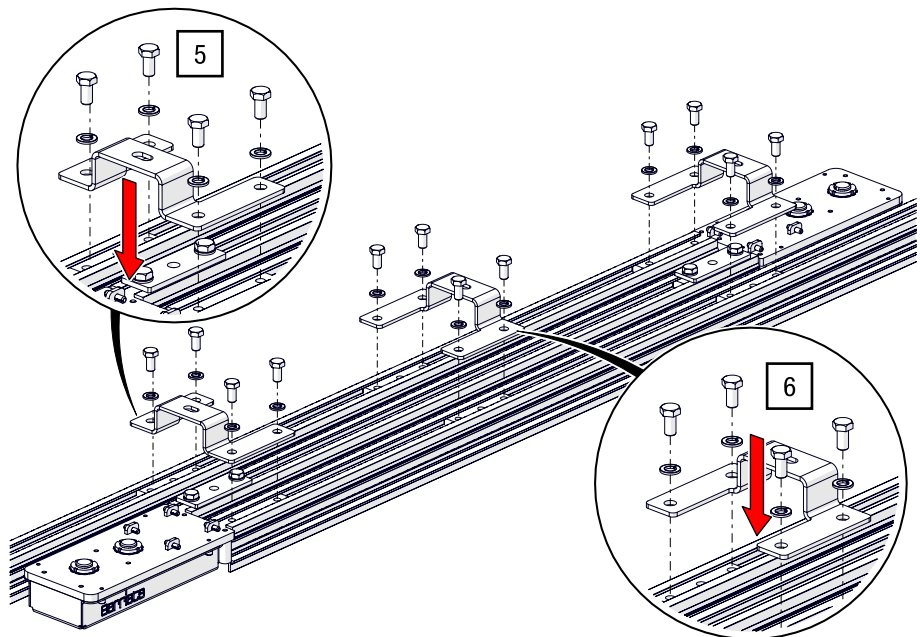

Fig. 62: Crossover unit – Mount suspensions and guide the deflection unit
5. Screw the guides and T-slot nuts together with the suspensions (see Fig. 62).
6. Position the remaining suspension centrally between the two deflection units according to Fig. 62.